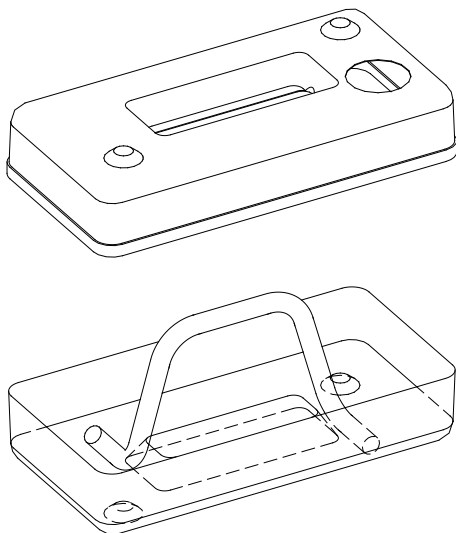

Figure 1
1. Place the Ballast Block handle in the base section of the ballast weight. (This is the section without the filling hole.) This handle can stand upright by itself. Position top section of Ballast Block over base section, push down and snap into position. See Figure 1.